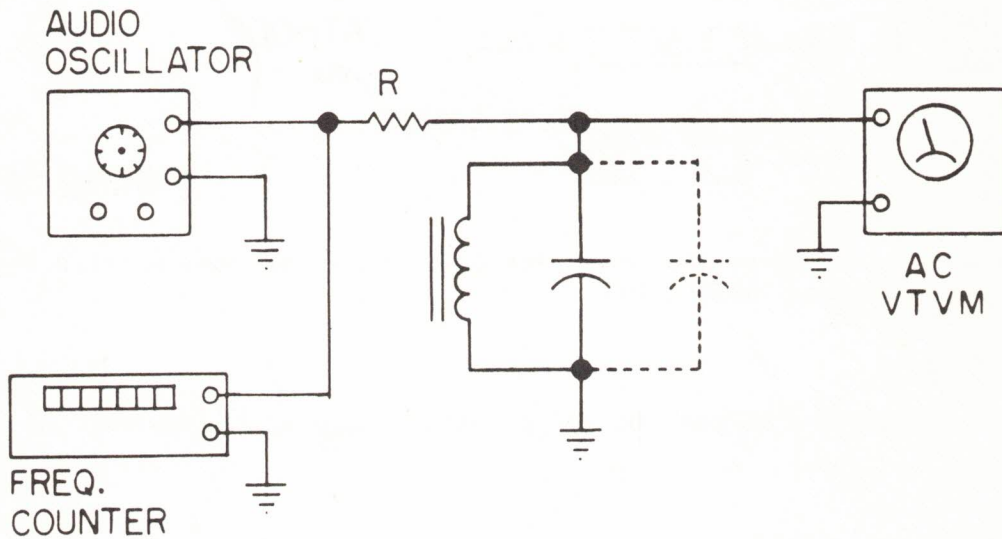

FIGURE 3-3
Figure 3-3 depicts the recommended test set-up for filter tuning. The resistor is necessary to isolate the tuned circuit from the low output impedance of the audio signal generator. Although not critical, a resistor of approximately 100K ohms is recommended for this purpose.
b. Using the first of these toroids, connect as shown in Figure 3-3 with a .068 uf capacitor.
e. Again refer to Figure 3-3 and connect the second toroid with a .056 uf capacitor for 170 Hz shift or a .033 uf capacitor for 850 Hz shift.